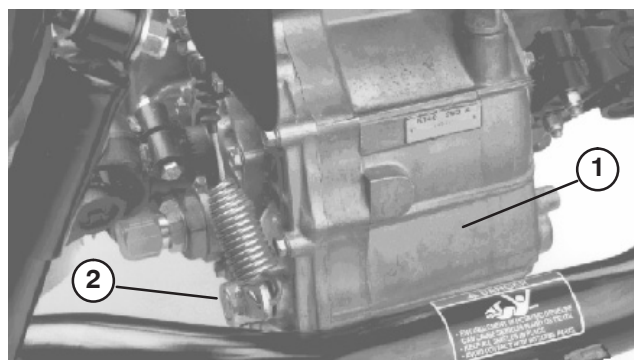

Figure 38
2. Remove drain plug (Fig. 38) from side of reservoir and let hydraulic fluid flow into drain pan.